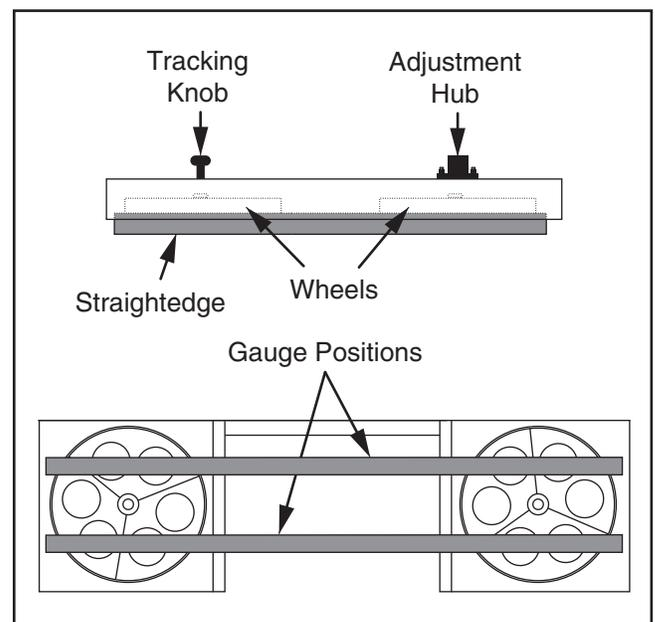

Figure 110. Illustrations of using straightedge to check wheel alignment.
3. Place straightedge up against both wheels in positions shown in **Figure 110**. Make sure straightedge fully extends across rims of both wheels.